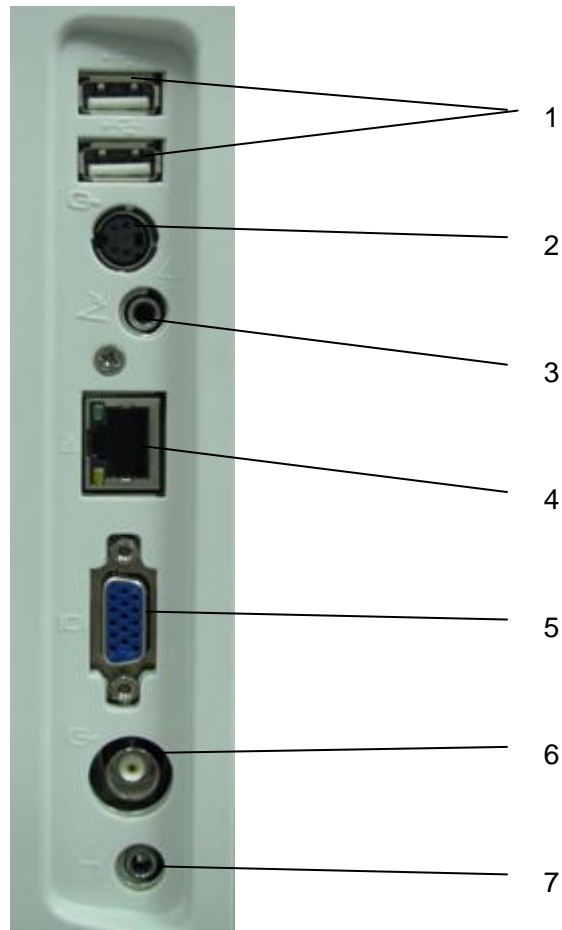

Figure 4-7 I/O Ports on the Left Panel
4. Parts and accessories must be connected to the I/O ports designated in *Figure 4-7*. For example, only the supplied or recommended USB device can be connected to the USB ports; DO NOT connect telephone line to the network port; DO NOT connect earphone to the footswitch port or remote port.
Reference *Figure 4-7 I/O Ports on the Left Panel.*